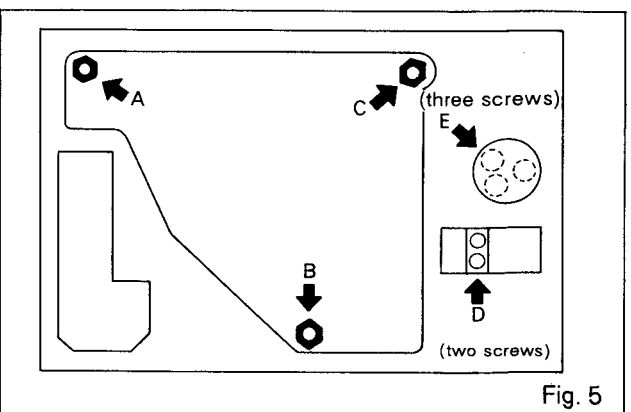
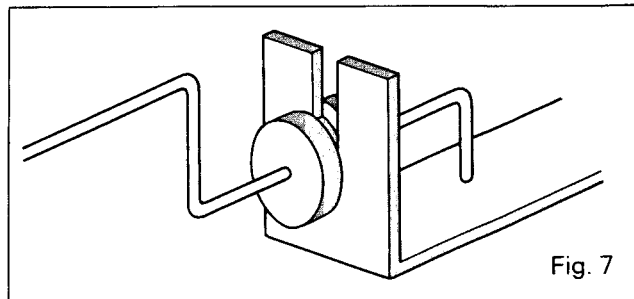
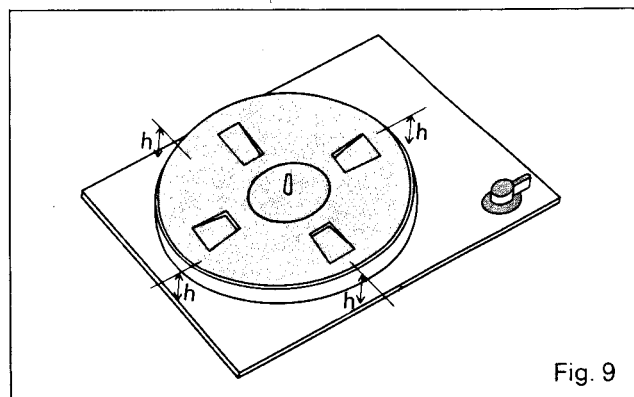

Fig. 5
Fig. 7
Fig. 9
- (1) Remove the two screws D which fasten the servo control circuit board of motor.
- (2) Cut the nearest portion to the servo control circuit board of two wires from printed circuit board and three wires from rotary switch.
- (3) Cut the nearest portion to the lug terminal of motor grounding wire.
- (4) Remove from the surface of panel board the three screws (M2.6)E which hold the motor. Then the motor can be removed. (Fig. 5).
- (9) Remove the reject spring spacer (Fig. 7)
- (10) Remove the terminal angle B from the panel board.
- (11) Turn the set over and remove nuts A, B and C shown in Fig. 5.
- (12) Remove the suspension spring and cushion rubber.
- (13) Hold the turntable shaft and lift, and remove the sub-chassis.
- (1) Place the set with the bottom base removed on a stable table, set the turntable, the platter mat and a record, and adjust the height and level of the turntable with the nuts **A**, **B** and **C** in Fig. 5 to the dimensions shown in Fig. 9.
- (2) After height adjustment, put a level indicator on the turntable, turn the nuts **A**, **B** and **C**, and adjust the level of the turntable. (Fig. 5). Adjusted turntable height should be within a range of $21 + 0.5 \sim -1.5$ mm.